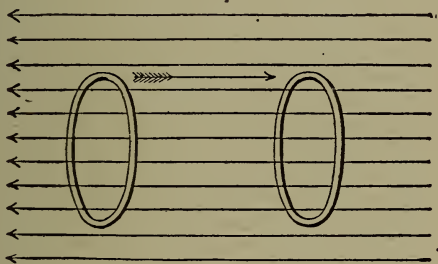
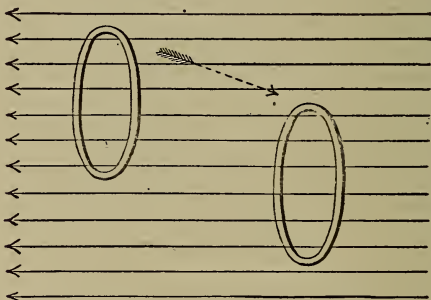

Fig. 149. Ring Moving in Field of Force Without Cutting Lines of Force.
Fig. 150. Ring Moving in Field of Force Cutting Lines of Force Without Change of Interlinked Lines.
*Examples of Interlinking.*—Assume a uniform field of force and let a ring of conducting material be moved in it. The cuts, Figures 149 to 152, illustrate several conditions, the motion of the ring being indicated by the arrows.
In the case illustrated by Figure 149 the ring is swept through the field of force, but cuts no lines of force, as its motion is parallel to them. Therefore no electromotive force is impressed upon it. In the case shown in the next cut, Figure 150, lines of force are cut, therefore electro-motive force is impressed; but as the num-